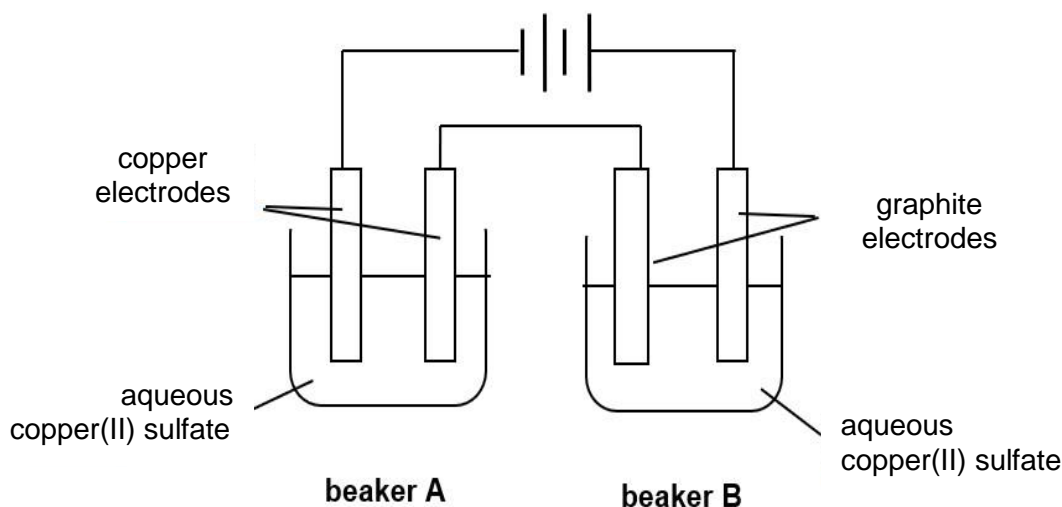

Fig 3.1
- 3 A student sets up an experiment as shown in Fig 3.1 to study the effect of graphite and copper electrodes in the electrolysis of aqueous copper(II) sulfate.